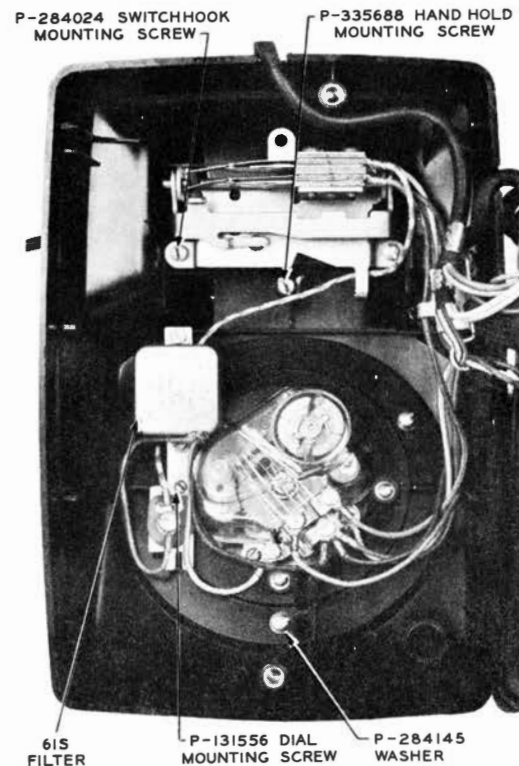

FIG. 5—FILTER AND SWITCHHOOK ASSEMBLY
- 4.04 This set may be equipped with a 61S filter as shown in Fig. 5.
- 4.05 The switchhook assembly for this series is shown in Fig. 5.